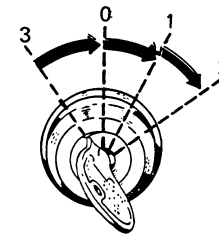

Fig. 10 Starter switch key
- 3 Switch off the current when the engine has stopped by turning the key to the 0-position, see Fig. 10.